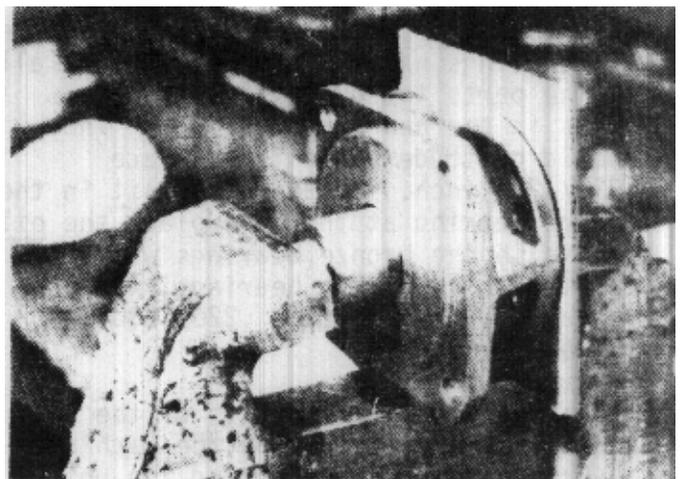

FIGURE 71
6. Place the seal press ring in position against the seal, taking care that it is centered over the seal. (Fig. 71)